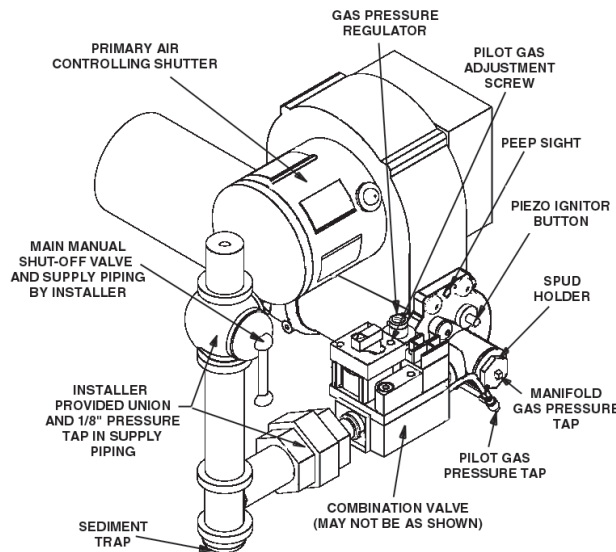

Figure 6: Piping Connections
CAUTION: The available gas pressure should be within the limits shown in the SPECIFICATIONS section. Excessive pressure will damage Combination Valve and Regulator. If the supply pressure exceeds the 14.0" W.C. maximum, a suitable intermediate main regulator must be installed ahead of the Main Manual Shut-Off Valve shown in Figure 6.
Provide a sediment trap, union and 1/8" pressure tap in piping close to burner as shown in Figure 6.
If the burner piping must be rearranged because of space limitations, be sure to carry out the general arrangement shown in Figure 6. Install the Combination Valve in any position except up-side down.
TO CHANGE SPUD: Turn Manual Gas Cock Knob on Combination Valve to OFF. Remove the Spud Holder. See Table 3, and Figure 6 or 7.
6. Turn Manual Gas Cock Knob on Combination Valve to PILOT and depress knob, or red button if so equipped. Hold firm and light pilot by depressing piezo ignitor button several times. Pilot should light. Pilot may be viewed through Peep Sight located in Back Plate (See Figure 6). Failure to light is probably due to air in pilot gas line. Attempt several relights. Then, if necessary, refer to Trouble Chart or Section IX to isolate the problem.